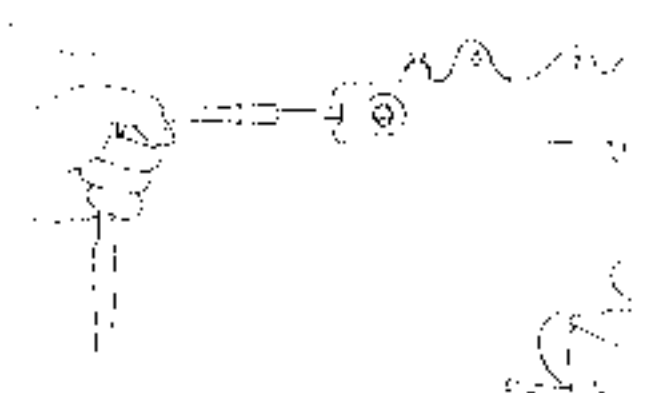

Figure 2-92. Socket Head Bolt
11. See Figure 2-92. Remove the socket head bolt.
11. See Figure 2-92. Push spring into fork tube (ensuring no wood damage) into damper tube into the fork tube. Tighten socket screw and washer. Torque to 27.29 N·m (20.0 lb·ft) (2.0 Nm).